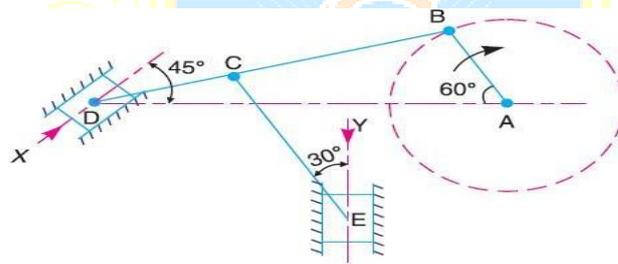

Fig. 7.30
3. The dimensions of the mechanism, as shown in Fig. 7.30, are as follows:  $AB = 0.45$  m;  $BD = 1.5$  m;  $BC = CE = 0.9$  m. The crank AB turns uniformly at 180 r.p.m. in the clockwise direction and the blocks at D and E are working in frictionless guides. Draw the velocity diagram for the mechanism and find the velocities of the sliders D and E in their guides. Also determine the turning moment at A if a force of 500 N acts on D in the direction of arrow X and a force of 750 N acts on E in the direction of arrow Y.